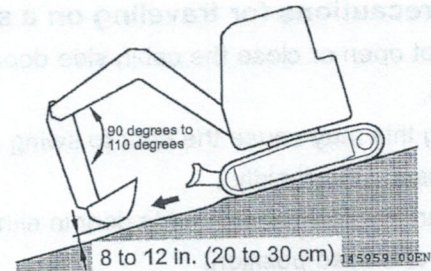

Fig. 3-45
1. Go down slopes at low speed, using the travel levers and accelerator lever to control your speed. When going down a slope, drive the machine at low engine speed and position the implement as shown in the figure on Fig. 3-45.